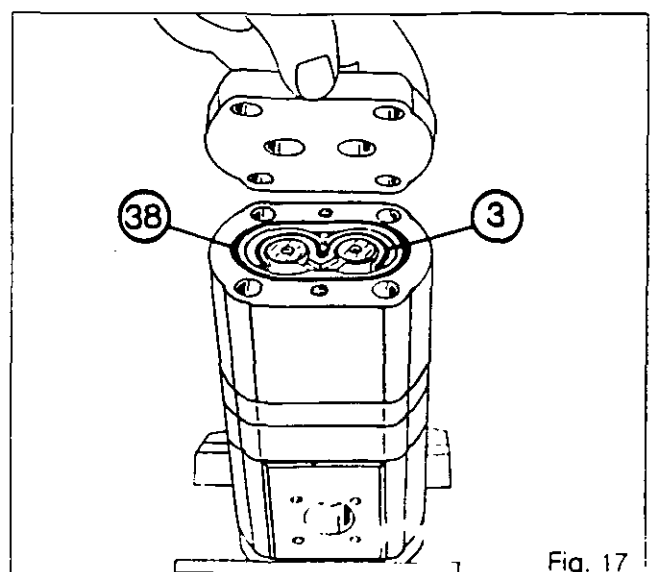

Fig. 17
87. Position the composite seal (3) and seal (38) (Fig. 17).